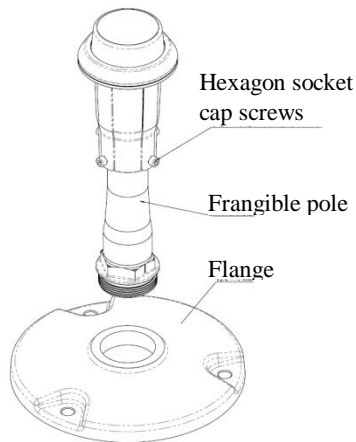

Figure 5-11
1. Take out the frangible pole from the flange with an elevated light nut wrench after unscrewing it (Figure 5-11).